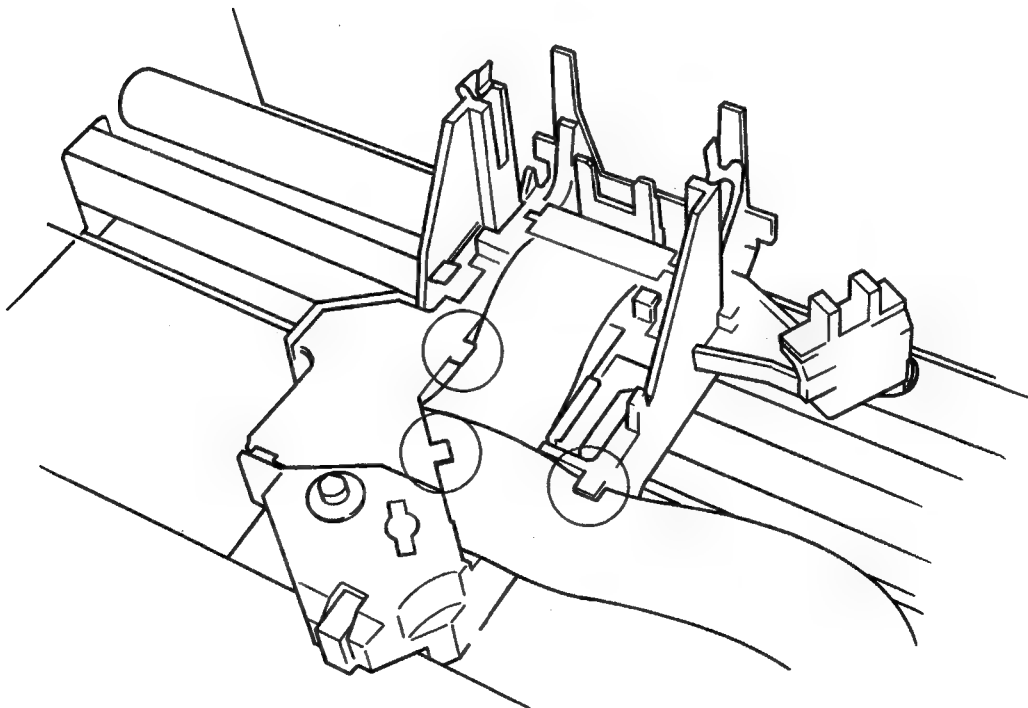

Figure 3-10 Cable Clamps
5. Release the cable from the three cable clamps on the carrier (see Figure 3-10).